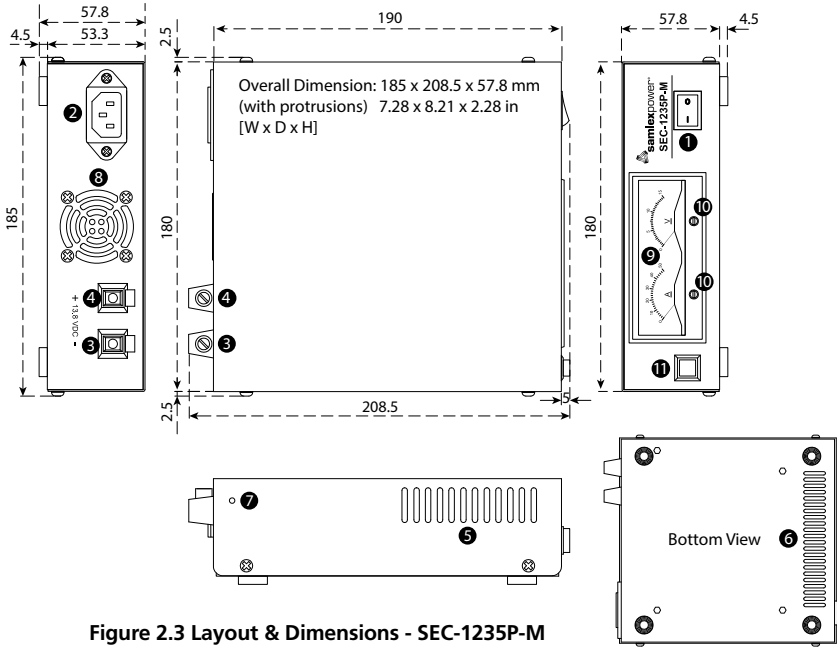

Figure 2.3 Layout & Dimensions - SEC-1235P-M
#### LEGEND for Fig 2.3
7. Lanced tab that slides into corresponding slot in the bottom housing. (There is one more lanced tab on the other corresponding side of the top cover). This ensures that the top cover fits properly only in one orientation i.e. ventilation slots(5) positioned away from the fan discharge openings(8).
- NOTES:** 1. The top cover will fit properly only when the 2 lanced tabs (7, Fig 2.3) are oriented towards the DC output terminals (3) and (4).
SEC-1235P-M has Voltmeter and Ammeter (9, Fig 2.3). If necessary, use adjusting screws (10, Fig 2.3) to zeroise the needles (do this with the unit in OFF condition). If required, the back light of the meter can be switched ON using ON/OFF Push Button for the back light (11, Fig 2.3).